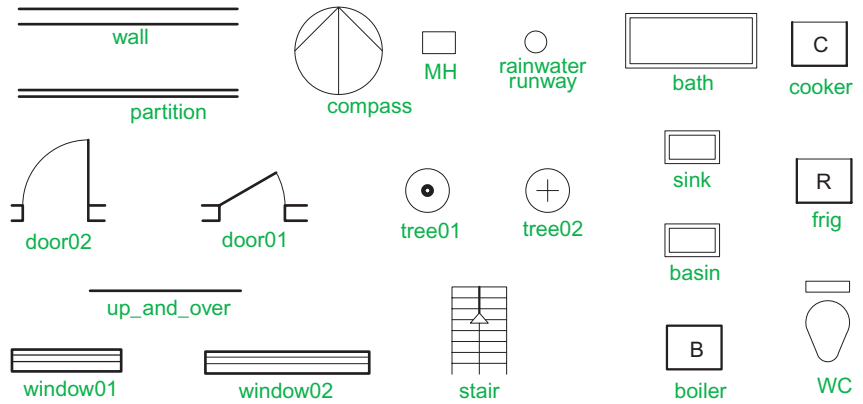
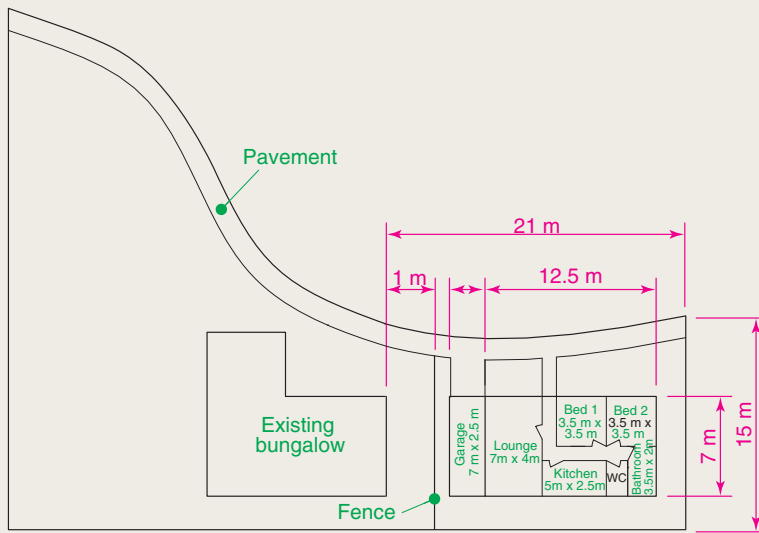

Fig. 16.8 A small library of building symbols
Fig. 16.28 Exercise 1
When constructing floor layout drawings it is advisable to build up a library of block drawings of symbols representing features such as doors, windows etc. These can then be inserted into layouts from the DesignCenter. A suggested small library of such block symbols is shown in Fig. 16.8.
1. Fig. 16.28 is a site plan drawn to a scale of 1:200 showing a bungalow to be built in the garden of an existing bungalow. Construct the library of symbols shown in Fig. 16.8 on page 328 and by inserting the symbols from the DesignCenter construct a scale 1:50 drawing of the floor layout plan of the proposed bungalow.